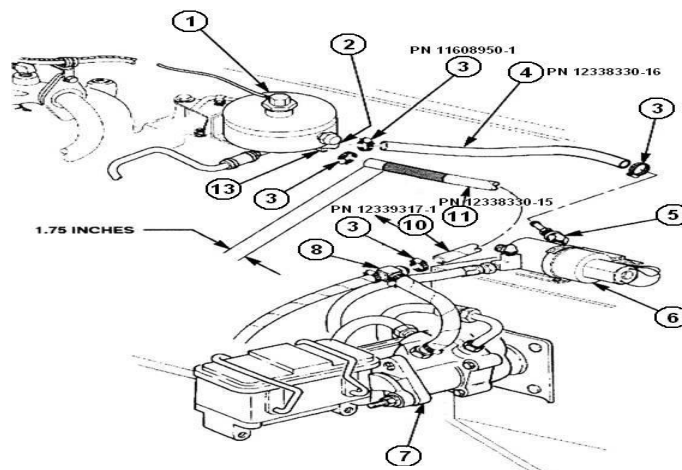

Figure 23
v. Installation of Power Steering Fluid Return Hoses. Refer to TM 9-2320-387-24-1, Chapter 8, Task Para 8-25, Page 8-68 and **Figure 23** contained in these instructions.
(1) Ensure that the existing plastic trim wrap (10) is reused and cut to fit as required on hose (11).
(2) Install two 11608950-1 hose clamps (3) on 12338330-15 hose (11) and connect to front port (13) on power steering reservoir (1) and tee (8) at hydro-boost (7).
(3) Tighten hose clamp (9) at front port (13) and leave hose clamp (9) at tee (8) loose at this time.
(4) Install two 11608950-1 hose clamps (3) on 12338330-16 hose (4) and connect to rear port (2) on power steering reservoir (1) and elbow (5) on hydraulic control valve (6). Tighten hose clamp (3) at rear port (2) – **LEAVE HOSE CLAMP (3) ON ELBOW (5) LOOSE AT THIS TIME.**